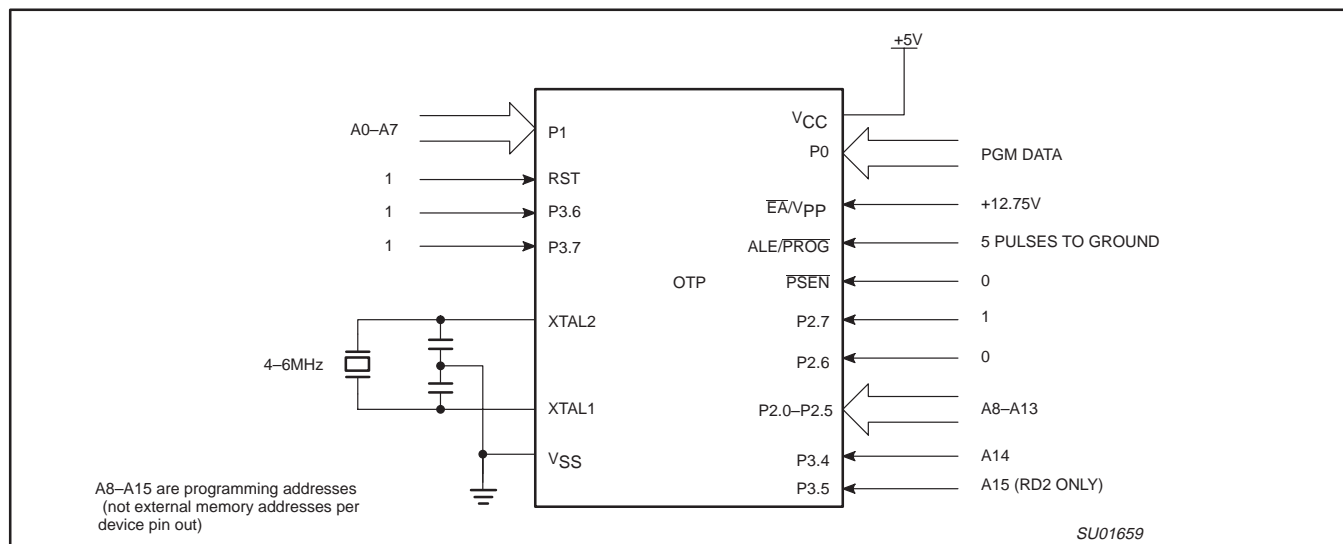
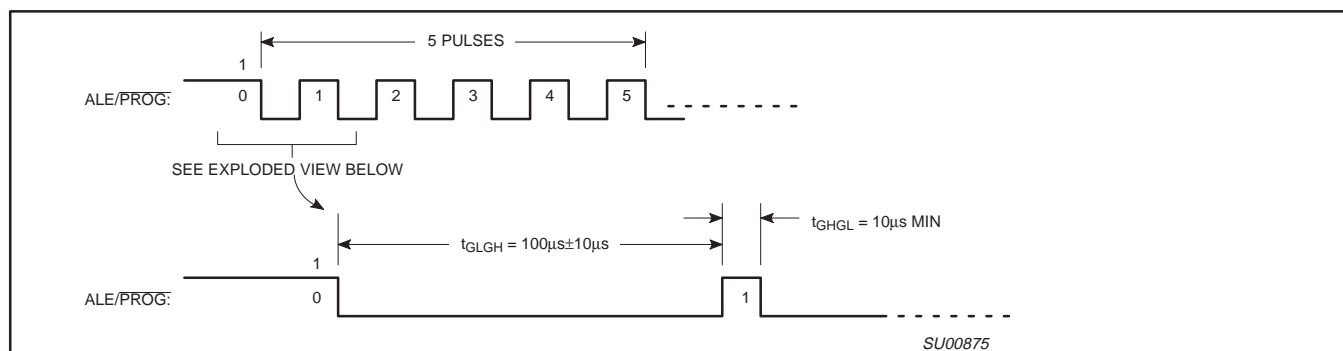
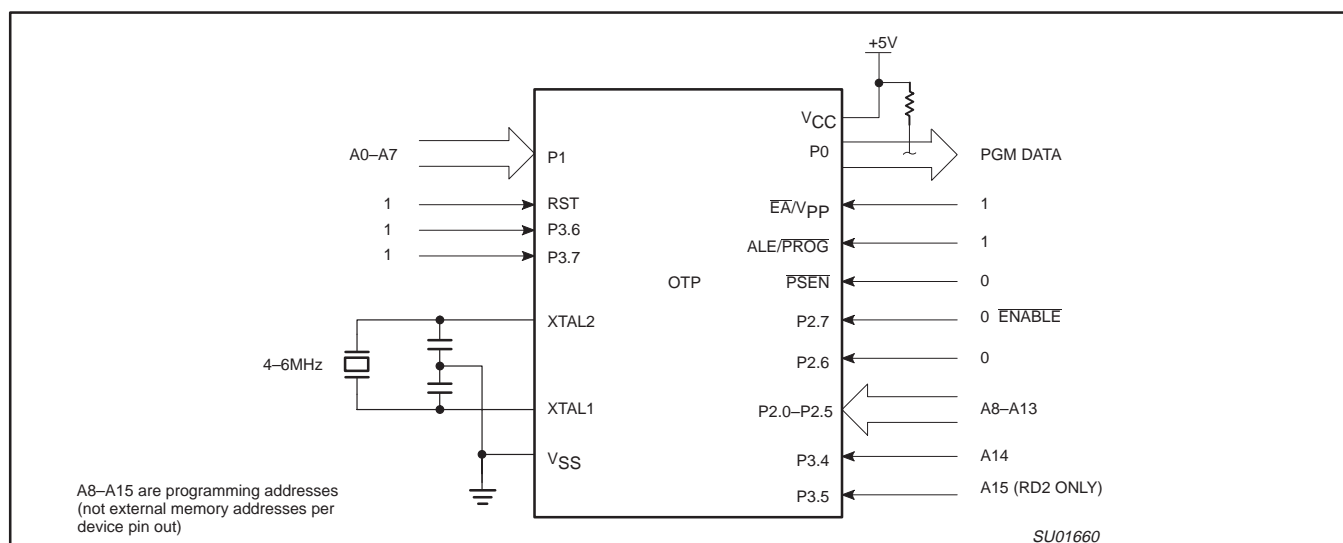

Figure 47. Programming Configuration
Figure 48. PROG Waveform
Figure 49. Program Verification
Table 8 shows the logic levels for reading the signature byte, and for programming the program memory, the encryption table, and the security bits. The circuit configuration and waveforms for quick-pulse programming are shown in Figures 47 and 48. Figure 49 shows the circuit configuration for normal program memory verification.
The setup for microcontroller quick-pulse programming is shown in Figure 47. Note that the device is running with a 4 to 6MHz oscillator. The reason the oscillator needs to be running is that the device is executing internal address and program data transfers.
The address of the EPROM location to be programmed is applied to ports 1 and 2, as shown in Figure 47. The code byte to be programmed into that location is applied to port 0. RST, \overline{PSEN} and pins of ports 2 and 3 specified in Table 8 are held at the 'Program Code Data' levels indicated in Table 8. The ALE/PROG is pulsed low 5 times as shown in Figure 48.
If security bits 2 and 3 have not been programmed, the on-chip program memory can be read out for program verification. The address of the program memory locations to be read is applied to ports 1 and 2 as shown in Figure 49. The other pins are held at the 'Verify Code Data' levels indicated in Table 8. The contents of the address location will be emitted on port 0. External pull-ups are required on port 0 for this operation.
* FOR PROGRAMMING CONFIGURATION SEE FIGURE 47.
FOR VERIFICATION CONDITIONS SEE FIGURE 49.